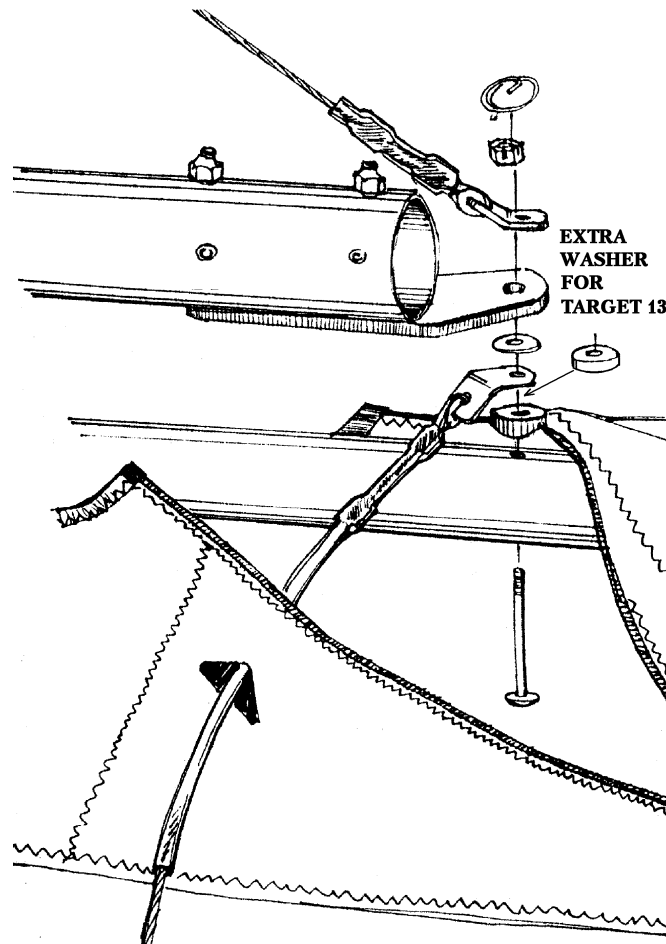

Fig.15
2.1.16. Assemble the leading edge/crossbar junction (Fig.15).